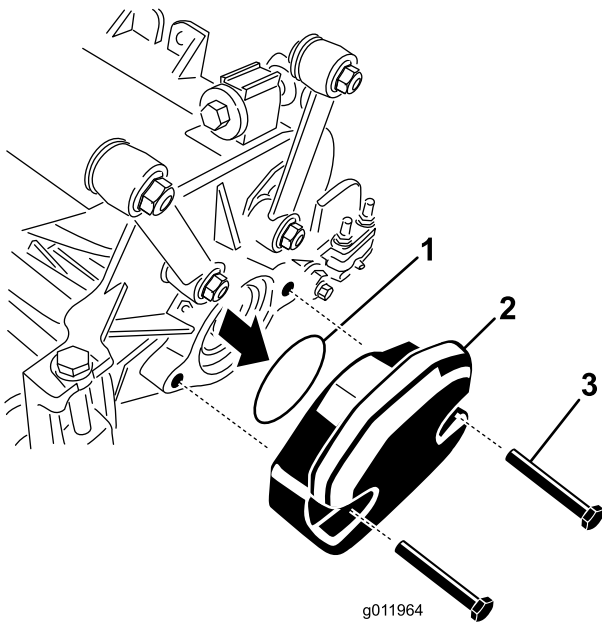

Figure 23
2. Remove the weight and o-ring (Figure 23) from the inside end of the right hand cutting unit.